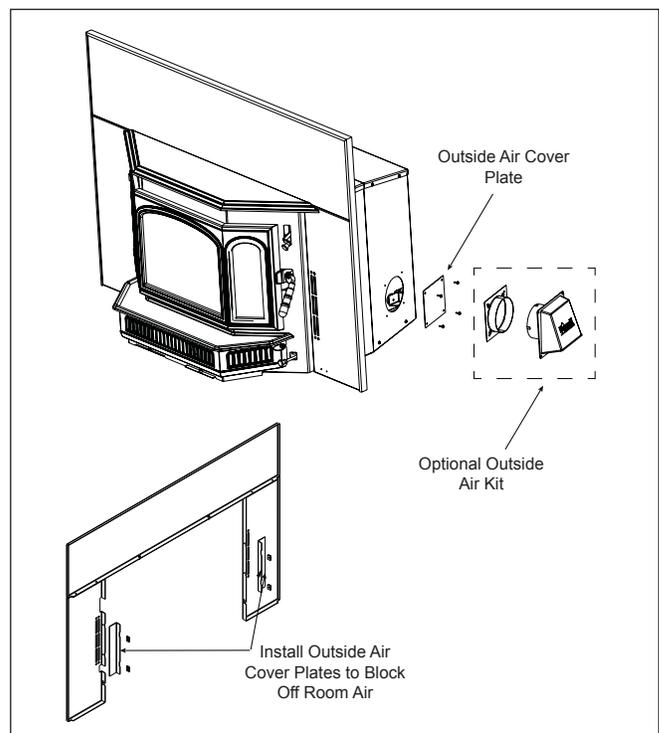

Figure 38.1
6. Snap the cover plates on the 2 side panels to block off room air. **Figure 38.1**.